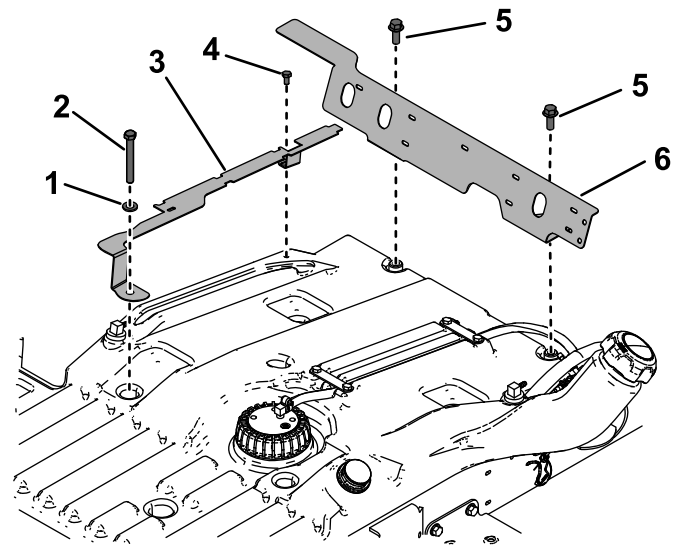

Figure 5
- Loosely install the fuel-line bracket using 1 bolt (3/8 x 3 inches), 1 washer, and 1 bolt (1/4 x 1/2 inch) that you removed previously (Figure 5).
- Loosely install the heat shield using 2 bolts (3/8 x 1 inch) that you removed previously (Figure 5).
1. Remove the 2 bolts from the heat shield and the front bolt and washer from the fuel-line bracket (Figure 5).
2. Torque the rear bolt (1/4 x 1/2 inch) on the fuel-line bracket (Figure 5) to 1017 to 1243 N·cm (90 to 110 in-lb).